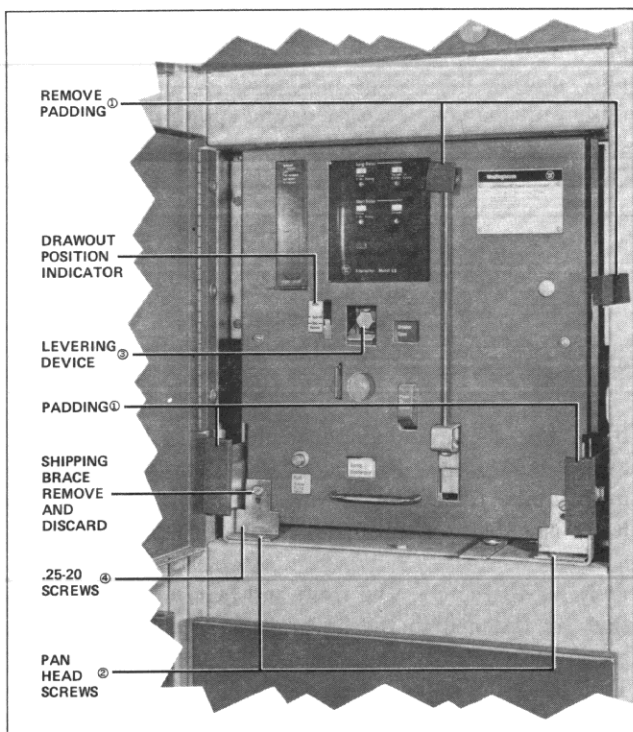

Fig. 34 Front View of Breaker Shipped in Compartment
Before the circuit breaker element can be withdrawn from its compartment for the first time, the shipping braces must be removed from the lower part of the breaker front panel. Refer to Fig. 34. During shipment, the front wheels of the breaker are lifted approximately 1/16 inch above the compartment rails, and the unit is held part way between disconnected and test positions by means of its levering device.
1. Remove the sponge rubber padding and tape from the compartment rails and the knob on the top of the spring charging handle. (Shown in Fig. 34.)
2. With a screwdriver, remove the two (2) outside .25-20 pan head screws from the bottom leg of the shipping braces. Do not discard, as later they will be returned to their tapped holes. Do not remove the center screw.
4. Remove the two (2) .25-20 screws holding the shipping braces to the front panel of the breaker. Care must be exercised to prevent marring the front panel. Two or more flat washers are used between the braces and front panel for shipping. Discard the braces.
6. With the breaker pulled completely to the end of the rails, remove the two (2) three inch long pieces of split plastic tubing that are on the top rear of the stationary rails immediately below the hold-down hooks. This tubing is for shipping purposes only and is to be discarded.
8. Push the breaker back into its compartment, and replace the two (2) .25-20 pan head screws at the front edge of the cradle.